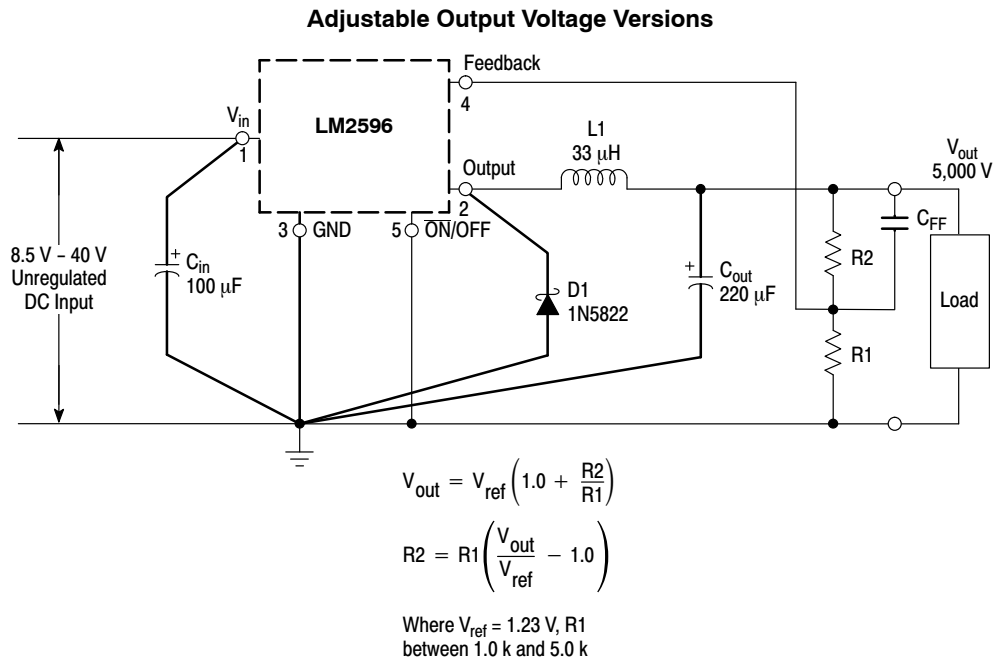

Figure 15. Typical Test Circuit
LM2596 (Note 1, Test Circuit Figure 15)
- External components such as the catch diode, inductor, input and output capacitors can affect switching regulator system performance. When the LM2596 is used as shown in the Figure 15 test circuit, system performance will be as shown in system parameters section.
TYPICAL PERFORMANCE CHARACTERISTICS (Circuit of Figure 15)
## TYPICAL PERFORMANCE CHARACTERISTICS (Circuit of Figure 15)
As in any switching regulator, the layout of the printed circuit board is very important. Rapidly switching currents associated with wiring inductance, stray capacitance and parasitic inductance of the printed circuit board traces can generate voltage transients which can generate electromagnetic interferences (EMI) and affect the desired operation. As indicated in the Figure 15, to minimize inductance and ground loops, the length of the leads indicated by heavy lines should be kept as short as possible.